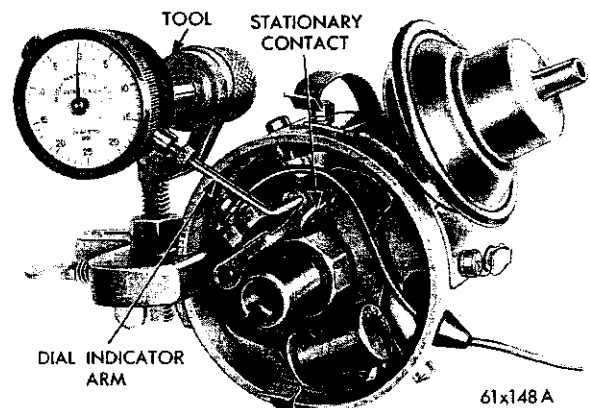

Fig. 90—Adjusting the Point Clearance with a Dial Indicator
(3) After aligning the contact points, readjust the point clearance to specifications using a dial indicator (Fig. 90).
(4) Test the dwell angle to show proper degree of closure. See Paragraph, "Distributor Point Dwell". The lock screw should be loosened just enough so that the stationary bracket can be moved with a slight drag; otherwise, it will be difficult to set the points accurately. After setting the points to correct the gap, tighten the lock screw.